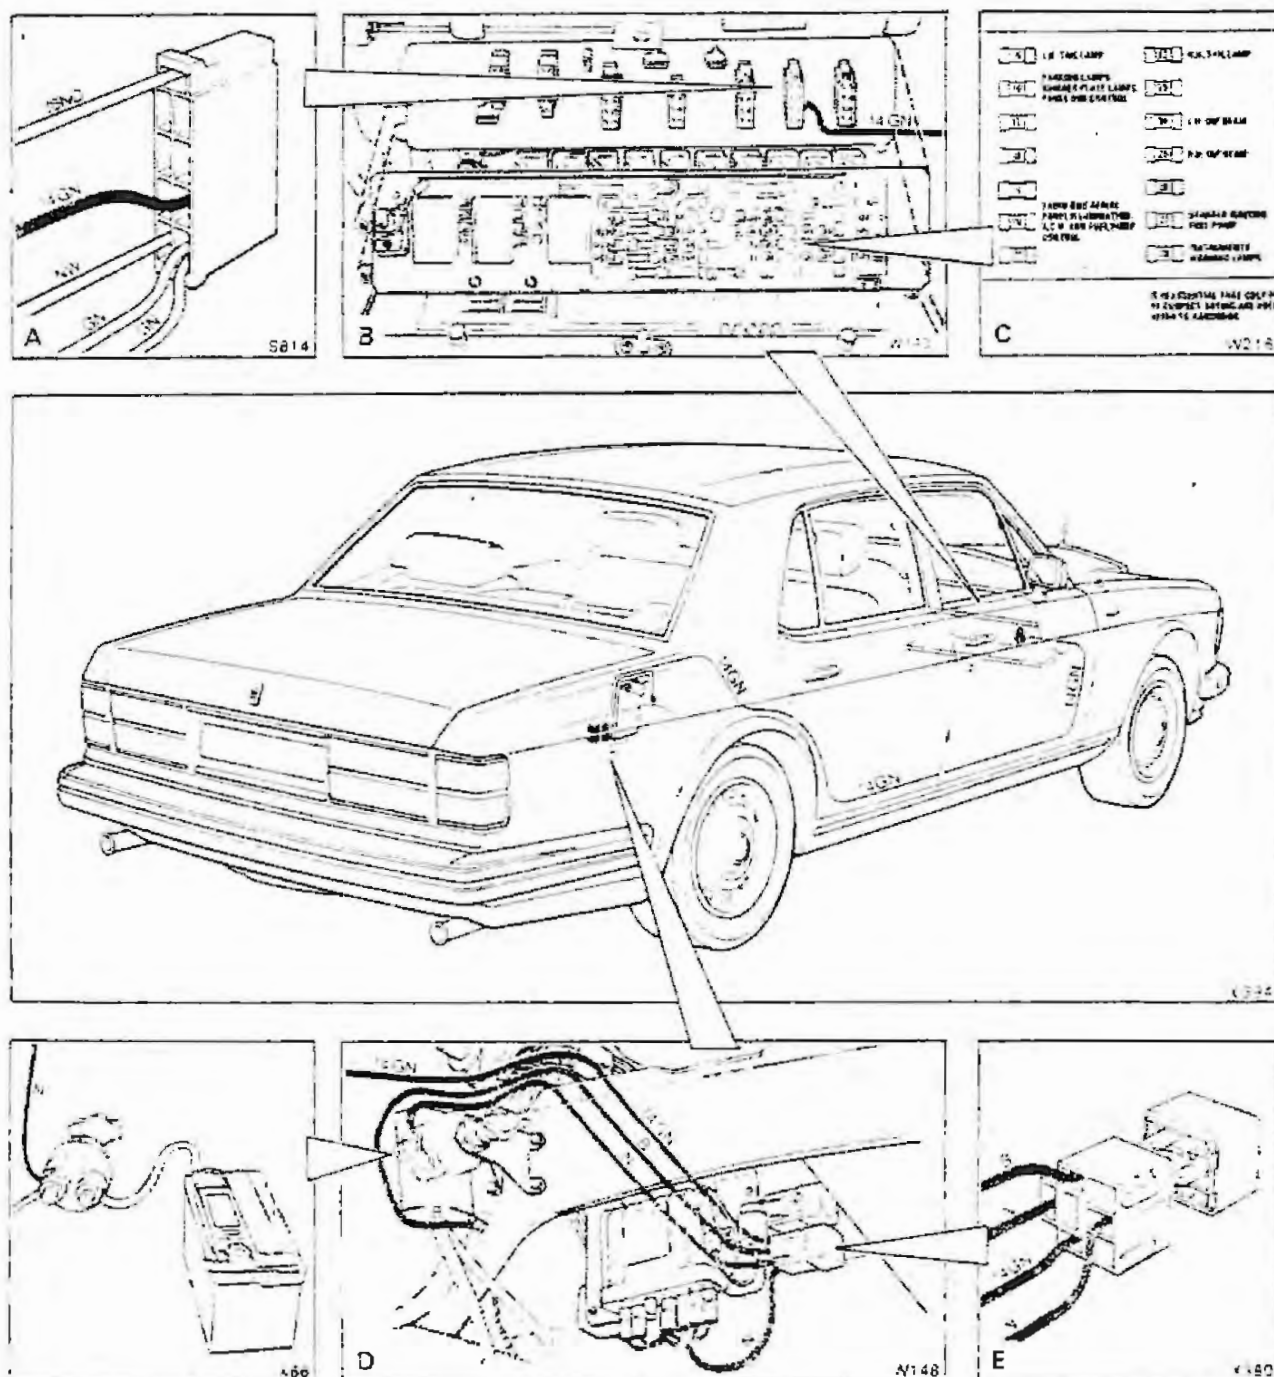

Fig. 3 Left-hand drive cars
14. Locate the terminated end of the Green/Brown wire into terminal number 86 in the relay socket provided in the kit of parts (see fig. 3, item E). This relay socket will eventually be fitted on the spare relay mounting, adjacent to the alternator control unit, below the rear window demist relay (see fig. 3, item D).